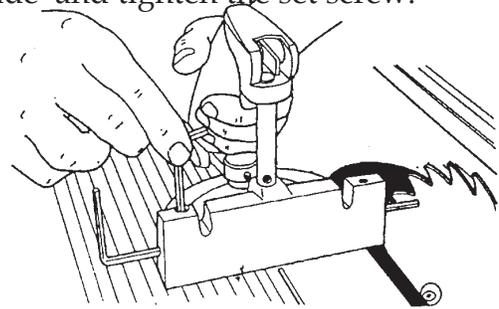

Figure C-41
- 41. Insert the long 5/32" Allen wrench through the miter gauge. Borrow a set screw from the lathe tool rest and use the short 5/32" Allen wrench to install it in either top miter gauge hole, as seen in Figure C-41. Place the tip of the long wrench against the front side of the saw blade and tighten the set screw.